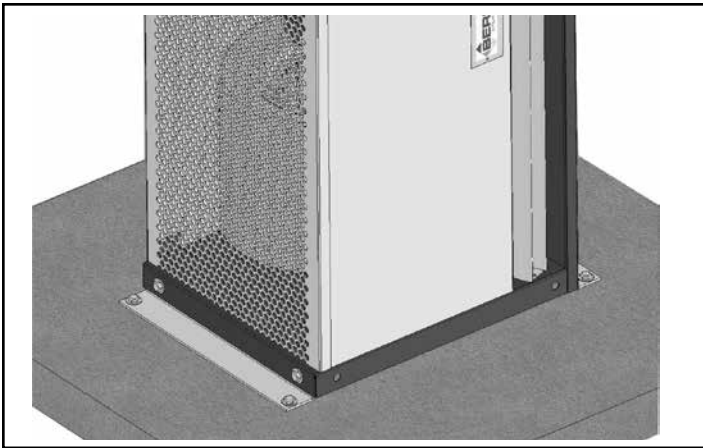

FIGURE 6 - Floor Mounting
- D. Position the unit vertically in its intended position and anchor it to the floor with a minimum 3/8" fastener. **See Figure 6.**